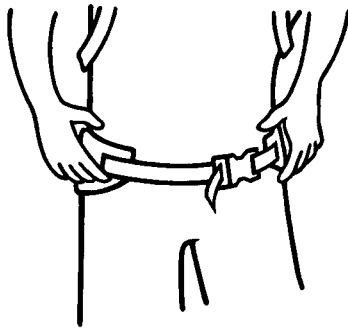

FIG. 4
6. Fasten the waist belt snugly and make sure the weight is resting comfortably on your hips (Figure 4).